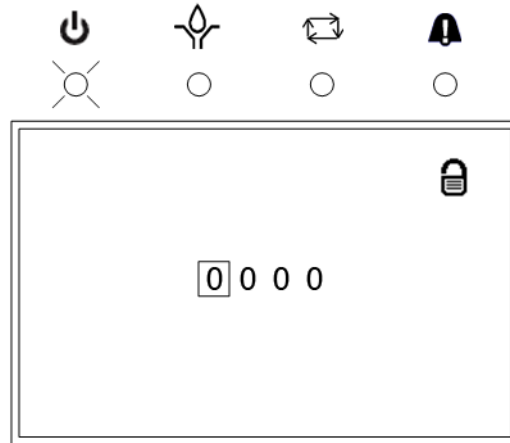

FIG. 21
1. To access Setup Mode, hold down the ENTER key for 3 seconds. The PIN ModeScreen shown in FIG. 21 displays.
- The Pin Mode screen shown in FIG. 21 only displays when the PIN mode is enabled. For setting up systems when the PIN mode is not enabled, go to System Setup instructions on page 21.
- Before the PIN Mode screen shown in FIG. 21 can display, the PIN Mode must be enabled in an previous setup sequence. See PIN Setup, page 32.
2. The PIN Mode screen in FIG. 21 displays.
3. Use the LEFT / RIGHT arrow to position the cursor over the first blank PIN Code prompt field (FIG. 21).